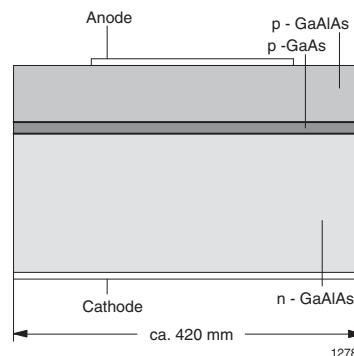

Fig. 7
As mentioned in the previous section, double heterostructures (DH) provide even higher efficiencies and faster switching times. A schematic representation of such a chip is shown in figure 7.